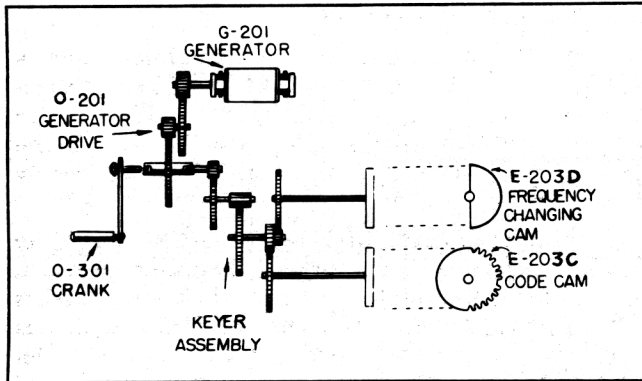

Figure 4-2. Radio Transmitter T-74/CRT-3—
(1) Crank O-301 fits into a socket in the crank shaft of generator drive O-201. The main driving gear attached to the crank shaft actuates an assembly of two gears, which in turn drives a pinion attached to the end of the generator shaft. This gear train provides the step-up ratio necessary to drive generator G-201. (See fig. 4-2.)